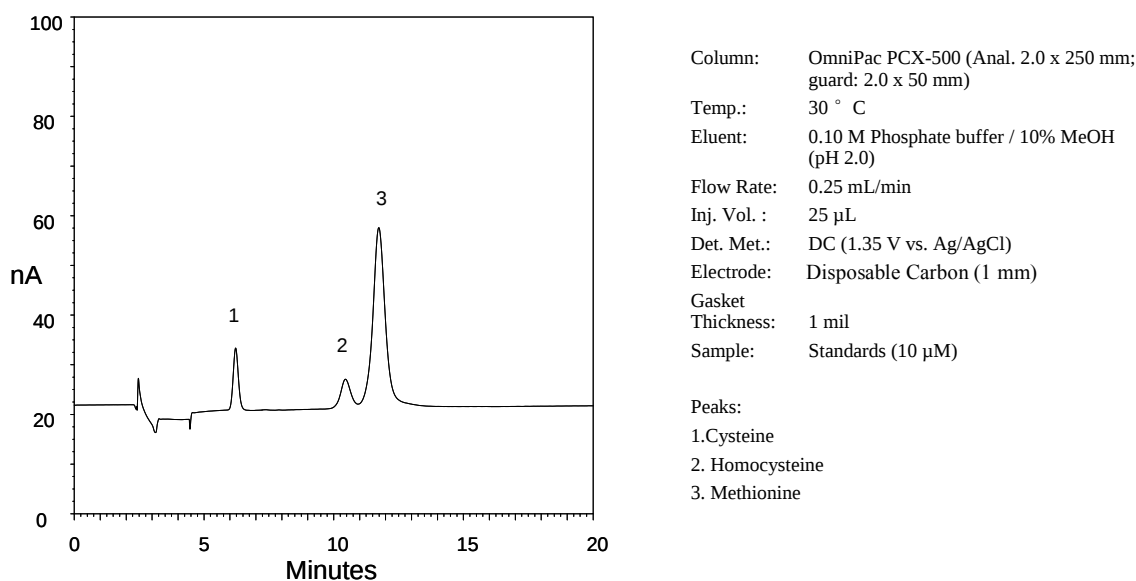

Figure 22 - S-Containing Amino Acids
11.4.1.1. Preparation of the Methionine Standard (Met, FW 149.21, one of the S-containing amino acids in Figure 22)